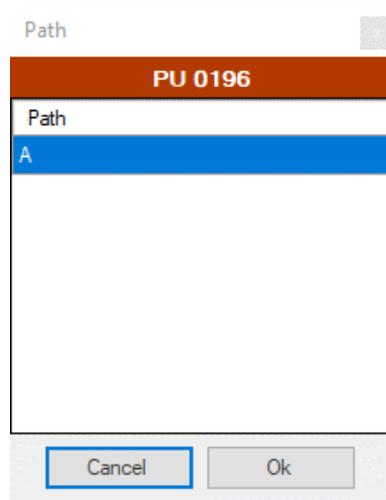

Figure 346 - Connect path to PU.
2. **Open the Export window**, and the software will recognize the PU number, then the user can associate it to a path (Figure 346);